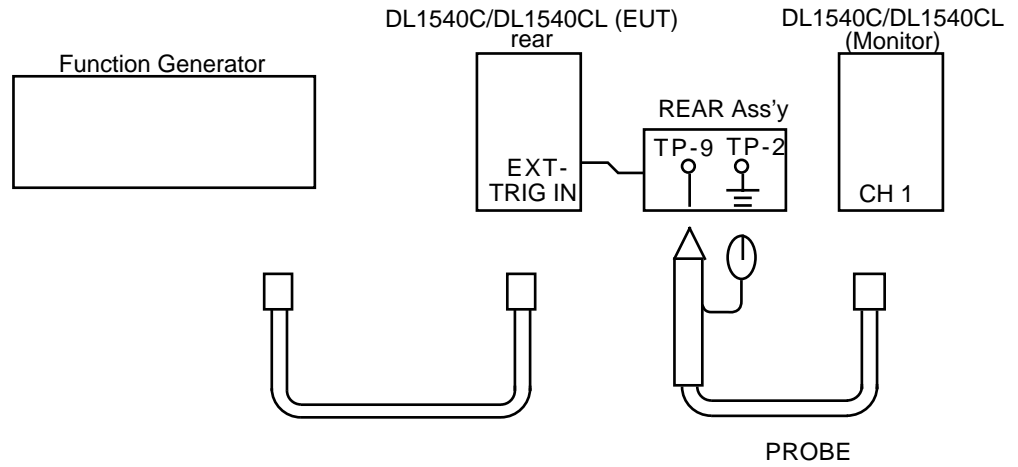

Figure 3.5 Connection Method
- 2) Connect each instrument as shown in Figure 3.5 Connection method.